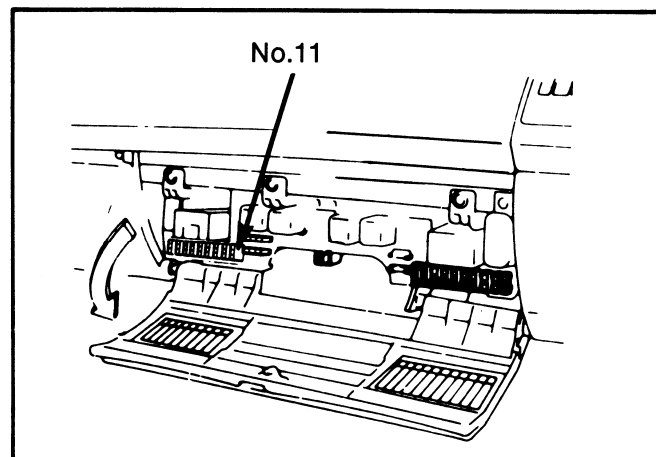

Figure 9. Clearing Memory
- 1) Clear the memory in ATCU by removing Fuse No. 11 or Battery — cable for about 10 seconds, after repairing. Otherwise, self diagnosis system continues to display the same trouble as before repairing (figure 9).